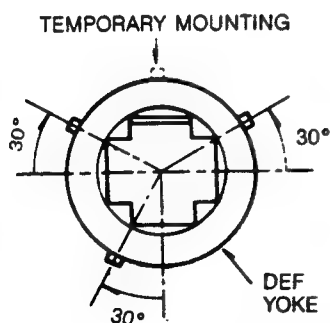

Fig. 15 Rubber Wedges Location
2. Place a wedge as shown in Fig. 15 temporarily. (Do not remove cover paper on adhesive part of the wedge.)
9. Stick 3 adhesive tapes on wedges as shown in Fig. 15.